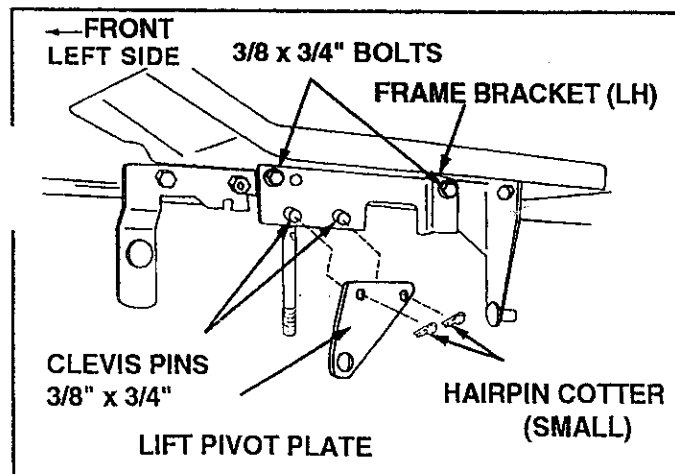

FIGURE 15
10. Assemble the frame bracket (LH) under the left hand foot rest of the tractor using two 3/8 x 3/4" hex bolts. Tighten securely being careful not to strip threads. See figure 15.
11. Assemble the lift pivot plate to the left hand frame bracket using two 3/8" x 3/4" clevis pins and secure with two 3/32" (small) hairpin cotters. See figure 15.